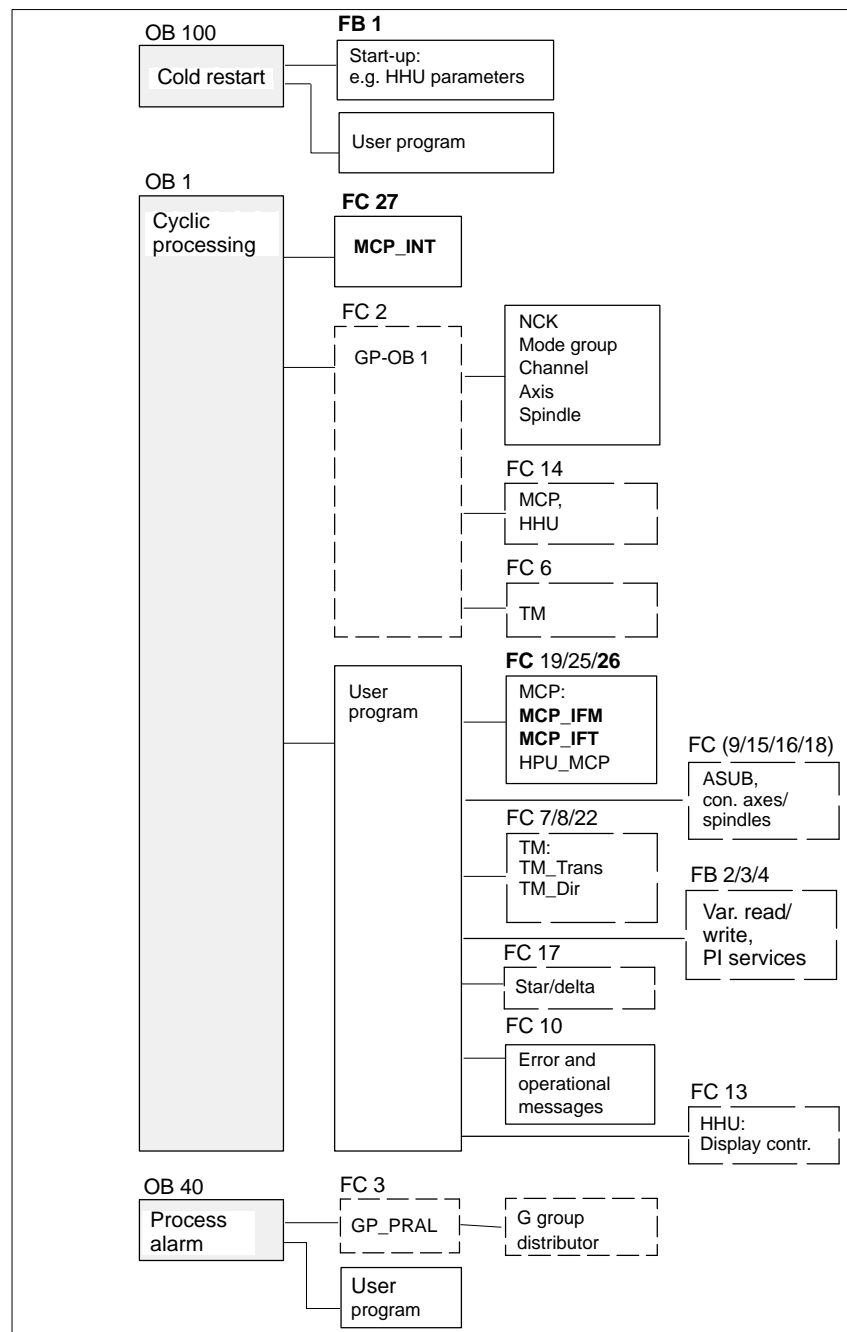

Fig. 7-20 Structure of the PLC program
The user (machine manufacturer) must call the relevant part of the basic program in the OBs 1, 40 and 100, as shown in Fig. 7-20.
4. Insert call of function block FC 26 into the cyclic parts of the PLC program (see Fig. 7-20, Page 7-186).